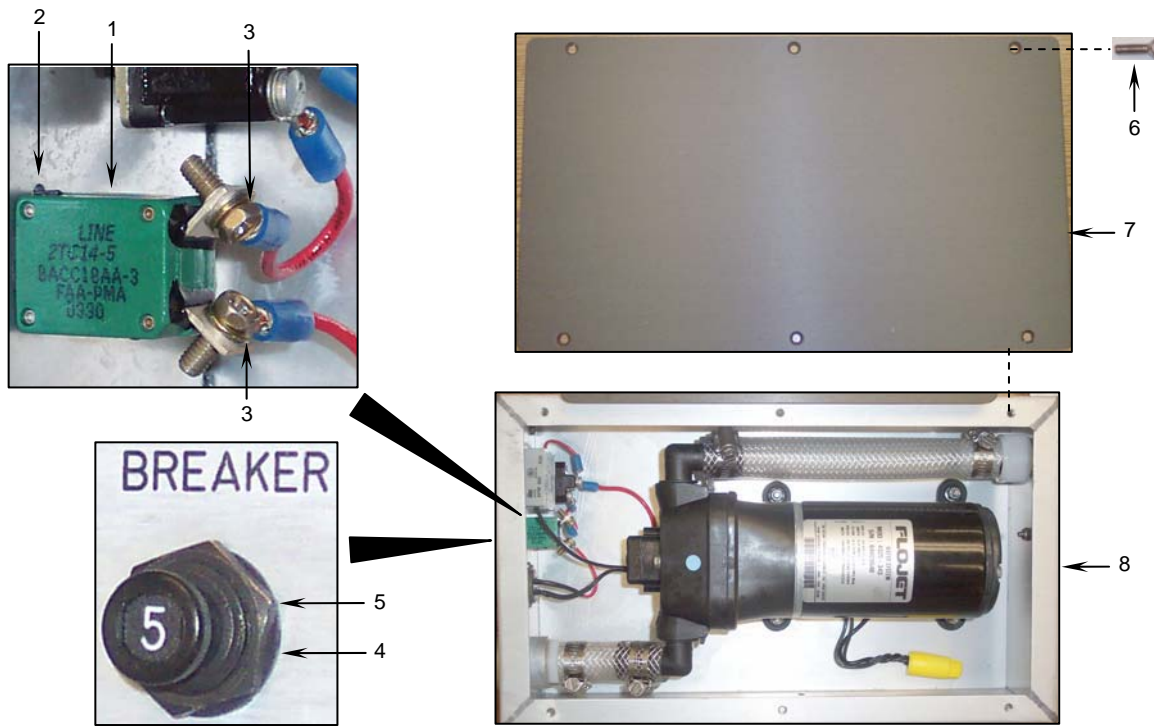

Figure 5. Installing the Sink Fill Pump Assembly Circuit Breaker.
- a. Orient the new circuit breaker (**Figure 5, Item 1**) so that the orientation tab is at the top (**Figure 5, Item 2**).
- b. Connect the two wires (**Figure 5, Item 3**) to the new circuit breaker as tagged.
- d. Secure the breaker to the enclosure using the lock washer (**Figure 5, Item 4**) and the lock nut (**Figure 5, Item 5**).
- e. Coat the terminal connections (**Figure 5, Item 3**) at the back of the circuit breaker with corrosion preventative sealant.
- f. Apply sealing compound to the six flat head machine screws (**Figure 5, Item 6**) and secure the fill pump cover (**Figure 5, Item 7**) to the sink fill pump assembly enclosure (**Figure 5, Item 8**) using the six screws.